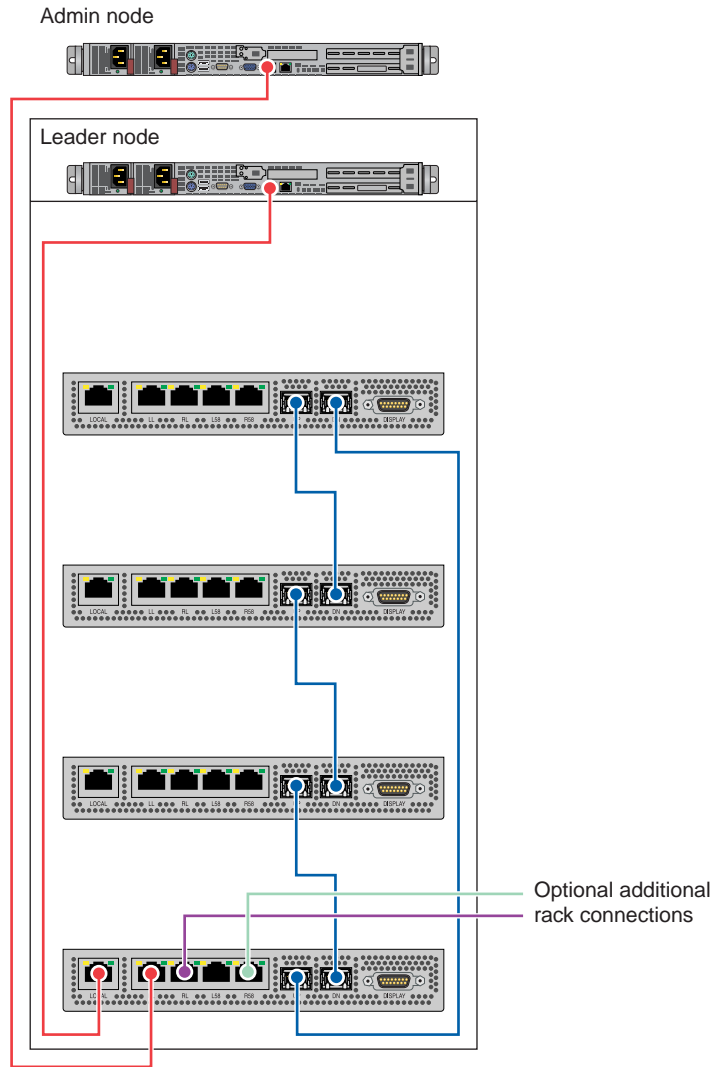

Figure 2-2 Chassis Manager Interconnection Diagram Example
- All enclosures within a system communicate with each other through their chassis manager connections (CMC) (note the chassis managers are enlarged for clarity in Figure 2-2).
The chassis manager in the lower IRU connects to the administration and rack leader server “nodes”, see the example in Figure 2-2.